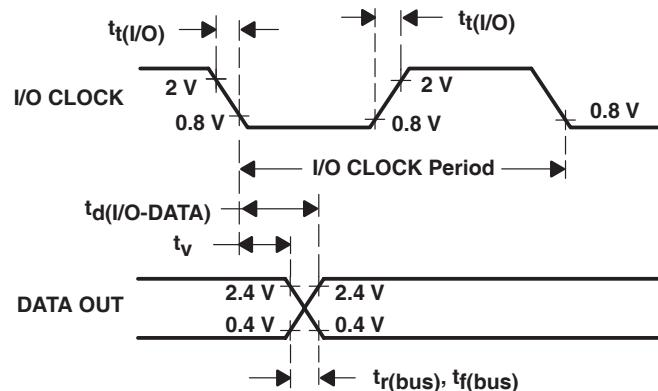

Figure 5. I/O CLOCK and DATA OUT Voltage Waveforms
9. I/O CLOCK period = $1/(I/O$ CLOCK frequency). Sampling begins on the falling edge of the third I/O CLOCK, continues for seven I/O CLOCK periods, and ends on the falling edge of the tenth I/O CLOCK (see Figure 5).